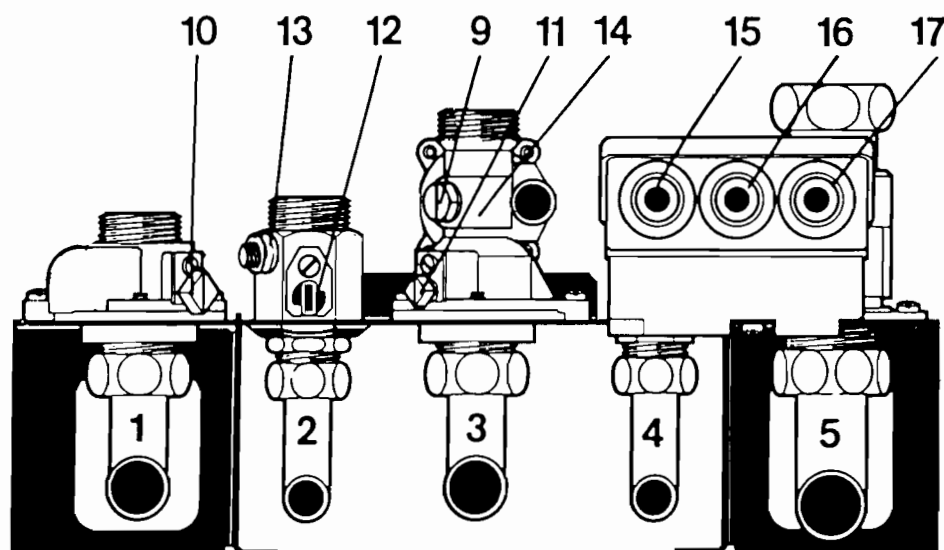

Fig. 8
6.6.2 The connecting plate incorporates the following for the installers/service engineer's convenience – refer to Fig. 8. Isolating valves in both the central heating flow and return connections.